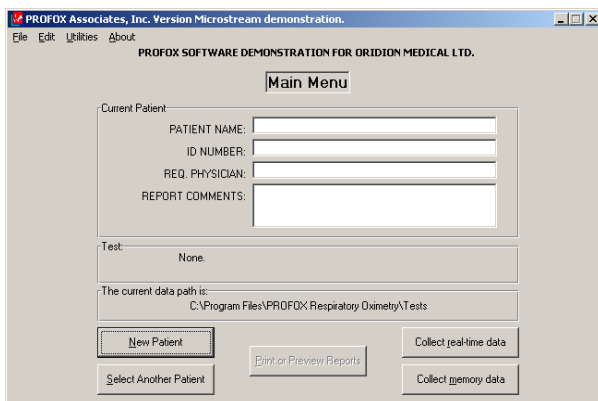

Figure 23. Profox Main Menu Screen
2. The Profox Main Menu screen (seen in Figure 23. Profox Main Menu Screen, on page 43) will appear.
5. Click *Save*. The Profox Main Menu screen (seen in Figure 23. Profox Main Menu Screen, above) will appear.